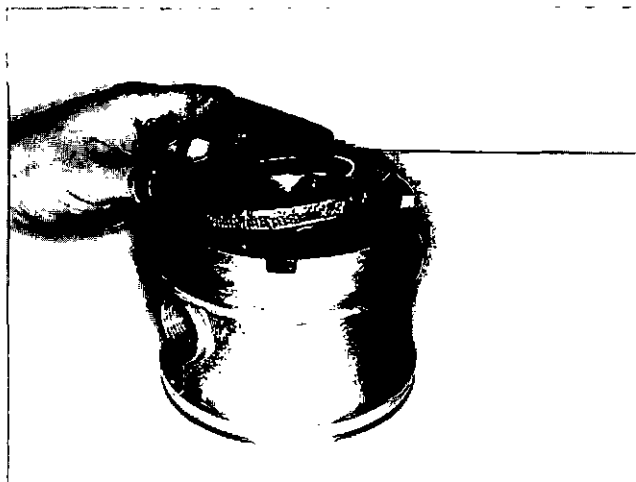

Fig. 3-9, (VTST34). Installing the insulation material
2. Position the new metal covered insulation pad on the turbine end of the bearing housing, Fig. 3-9.